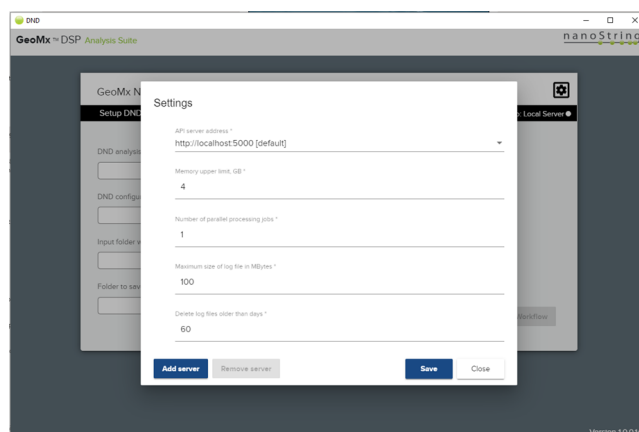

Figure 34: Adding a server
6. Once installed, add the server in the GUI by clicking **new server**, entering the Public IPv4 address of the server (four integers separated by periods followed by :5000), then clicking **Add** (Figure 34).